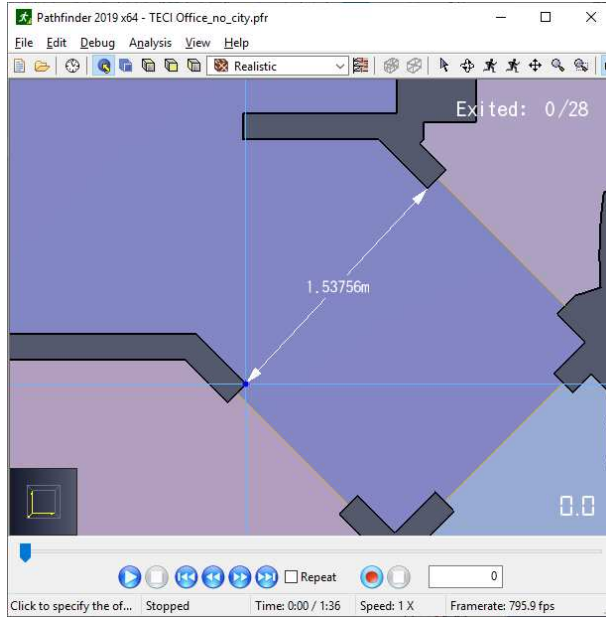

Figure 49. Unmodified dimension
5. If the dimension does not need further adjustments (Figure 49), either press Enter on the keyboard or click the second point again, and the dimension will be added. Skip the remaining steps.